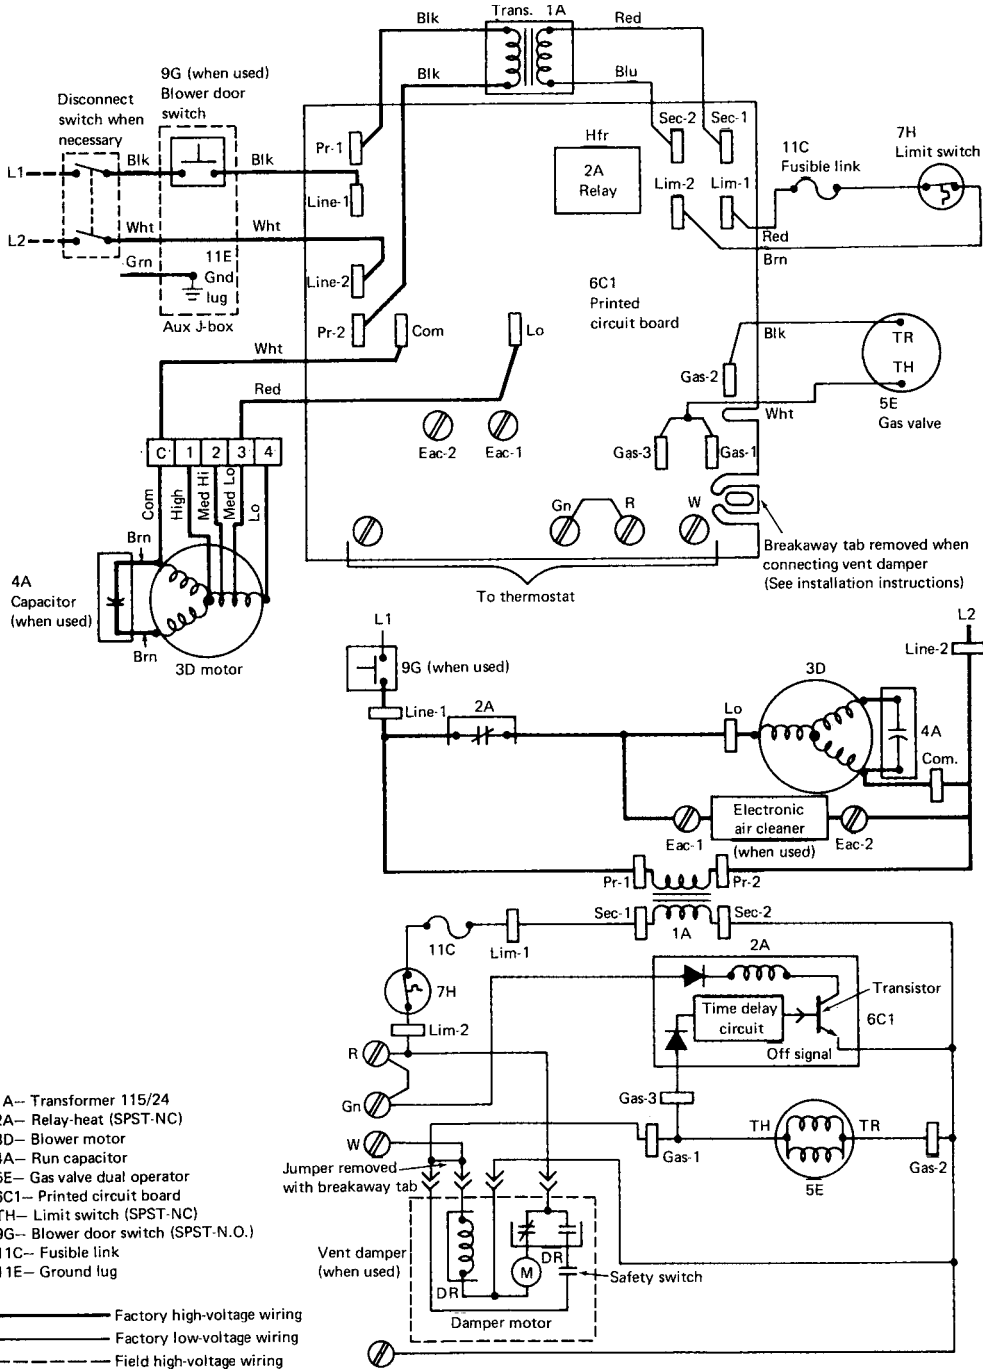

Figure 15-9 Wiring diagram. Heating only. (Courtesy of Carrier)
**Printed circuit board control center.** Newer hot-air furnaces feature printed circuit control. The board shown in Fig. 15-8 is such that it is easy for the technician installing the furnace to hook it up properly the first time. The markings are designed for making it easy to connect the furnace for accessories, if needed. Figures 15-9 and 15-10 show the factory-furnished schematic. See if you can trace the schematic and locate the various points on the printed circuit boards.